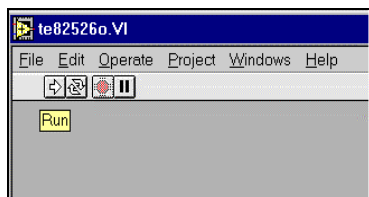

Figure 1
- 4.2 Click on the white arrow in the upper left corner of screen to run the TE82526 test program. See Figure 1.